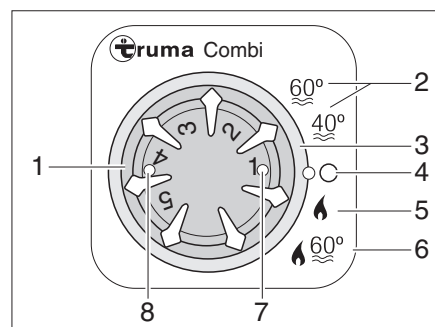

Fig. 297 Operating unit for heater/boiler
- Set the operating mode using the rotary switch (Fig. 297,3).
The heater selects the necessary burner setting according to the set heating level. In the "Heater and boiler" (Fig. 297,6) operating mode, the water in the boiler is also heated. The heater can be operated with an empty boiler in the "Heater without boiler" (Fig. 297,5) operating mode.
- Turn the temperature control knob (Fig. 297,1) on the operating unit to the desired heating level.
- Set the rotary switch (Fig. 297,3) to winter operation "Heater without boiler" (Fig. 297,5) or to winter mode "Heater and boiler" (Fig. 297,6).
The green indicator lamp (Fig. 297,7) lights up.
- Set the rotary switch (Fig. 297,3) to "O" (Fig. 297,4).